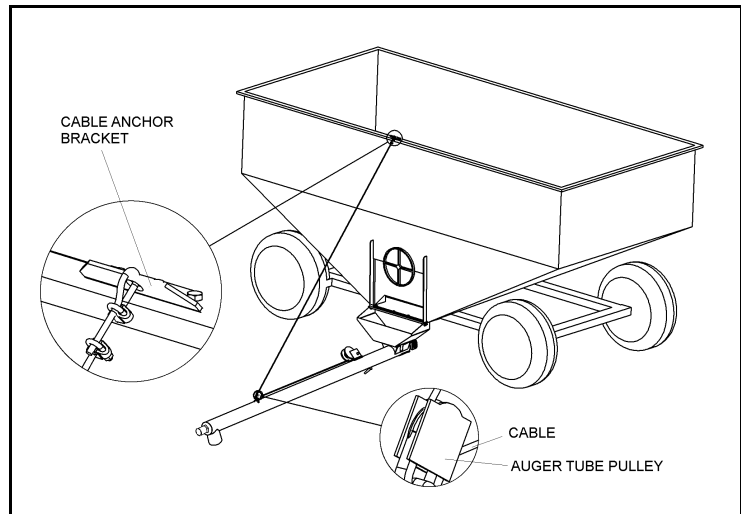

Figure 3.8
3. Thread cable up through cable pulley (welded to tube). Pull cable back to the cable attach bracket, which was bolted onto gravity wagon in previous steps (Figure 3.8).